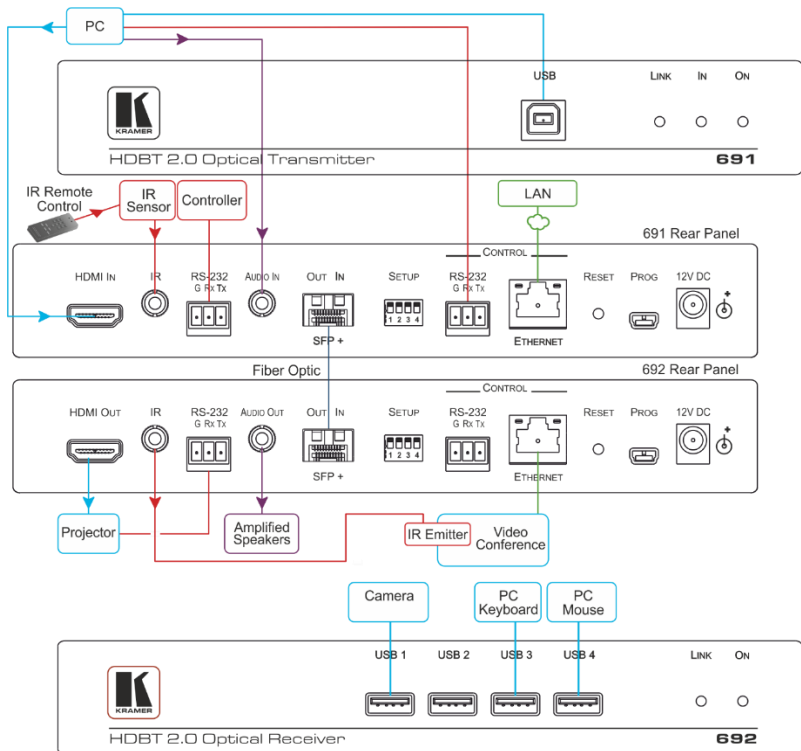

Figure 3: Connecting the 691 and 692
You can use the 692 HDBT 2.0 Optical Receiver and a compatible receiver, for example, the Kramer 691 HDBT 2.0 Optical Transmitter to configure a paired HDMI transmitter/receiver system, as shown in the example in Figure 3.
7. Connect the supplied power adapter to the power socket and plug the adapter into the mains electricity (not shown in Figure 3).